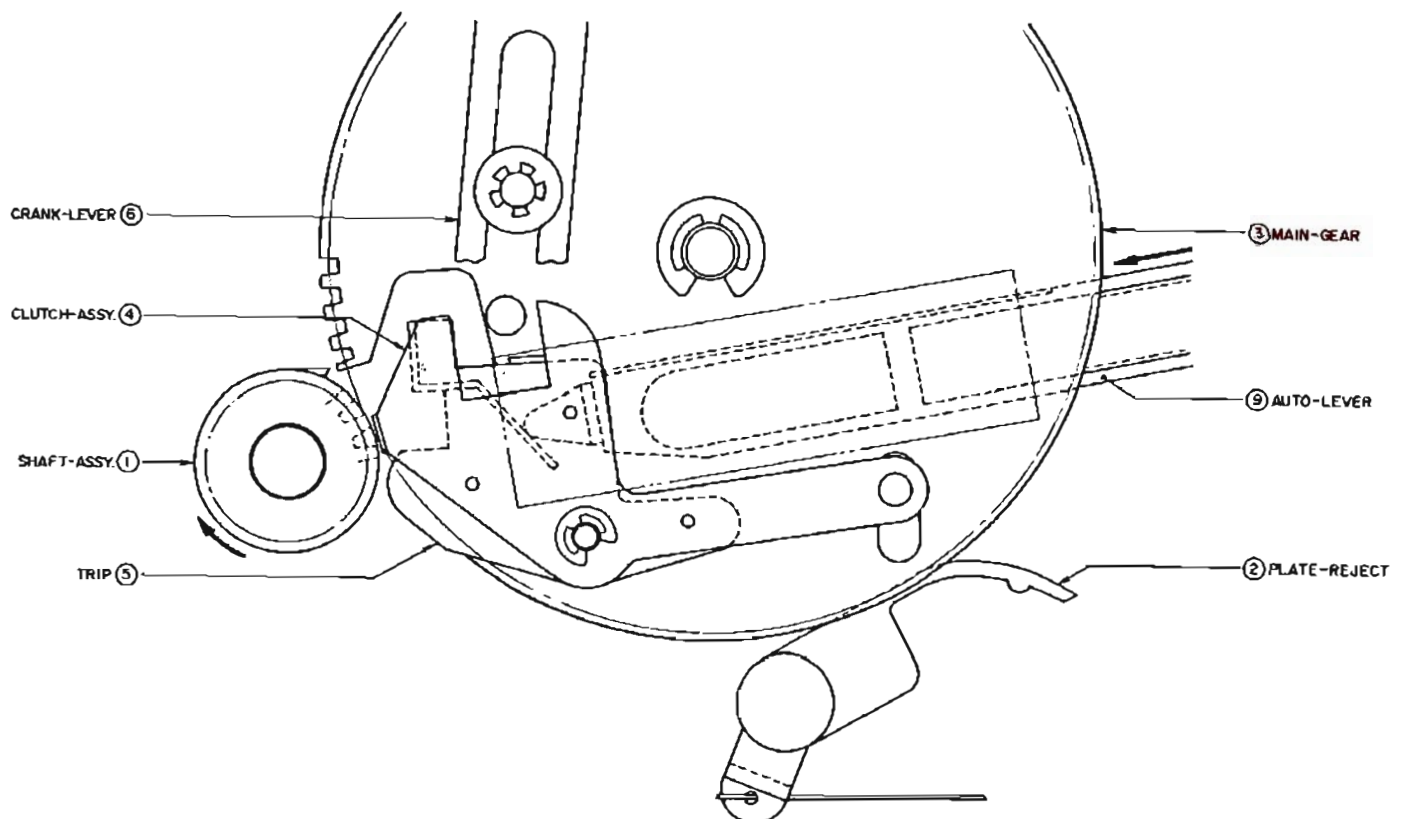

Fig. 5 PICK UP ARM STYLUS TIP IN VICINITY OF 126°
In due time the pick up stylus finishes sound groove tracing and about the time it enters the lead-out groove, the tip of AUTO-LEVER (9) begins to push the skirt part of TRIP (5) and the CLUTCH ASSY (4) which rides lightly on this part is pushed out toward the TABLE SHAFT ASSY (1) (shown in Fig. 5, when the pick up stylus is at a about 126 mm position from the turntable).
When listening to a record and you wish to stop in the middle of a performance, or when playing a record not according to specifications, and the stylus tip has advanced to the last groove, simply bring the cut lever forward. This moves PLATE REJECT 2 which pushes PLATE JOINT (13), then POLE REJECT (15) and ultimately CLUTCH ASSY (4) is pushed as shown in Fig. 13. ($\leftarrow$ mark). Then return operation commences and the power source is turned OFF (Refer to Item 1 above and Fig. 5).